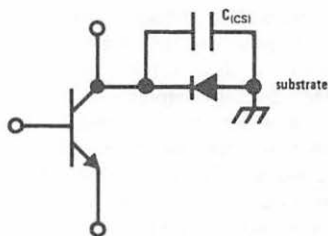

Fig. 6. The "Parasitic" collector-substrate diode.
*Parasitics* — Here is where the actual characteristics of an IC depart in unexpected ways from those of the same circuit in discrete form. The culprit is the P-type isolation region, which separates the various IC elements; it is a reverse-biased PN junction (Fig. 6), which is assumed to be an open circuit. But such a junction produces a parasitic shunt capacitance from NPN collector to ground, which can deteriorate high-frequency performance of the IC. While IC schematics rarely show this PN junction, it must be remembered by the user who applies supply voltage other than those recommended; since the substrate is commonly connected to the most negative point in the circuit, normal operation does indeed keep it reverse-biased, but an attempt to operate an NPN collector more negative than this voltage will forward-bias the junction, drawing